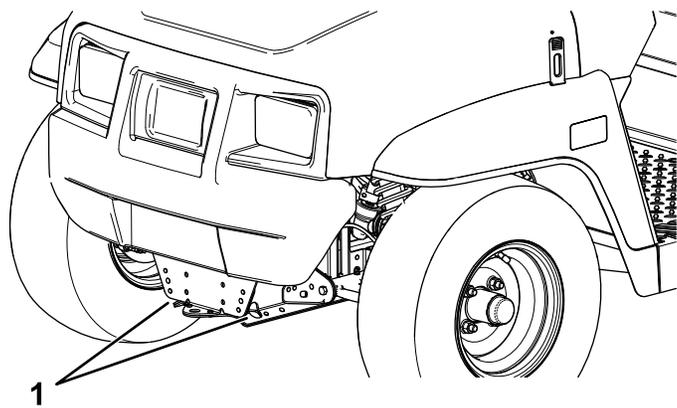
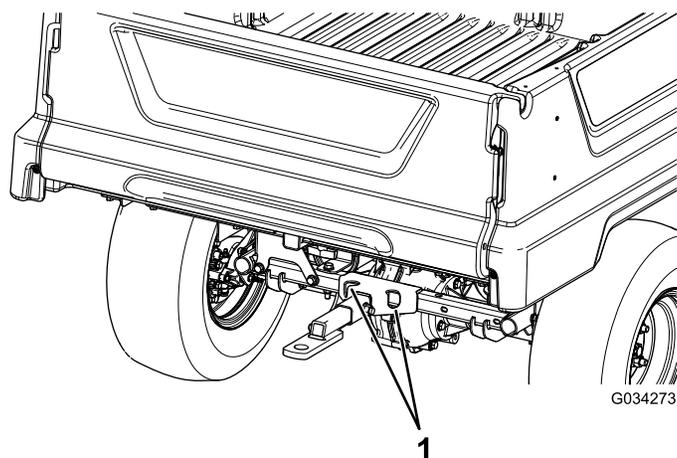

Figure 19
Figure 20
Refer to Figure 19 and Figure 20 for the tie-down locations on the machine.
2. Affix a tow line to the tongue at the front of the machine's frame (Figure 20).